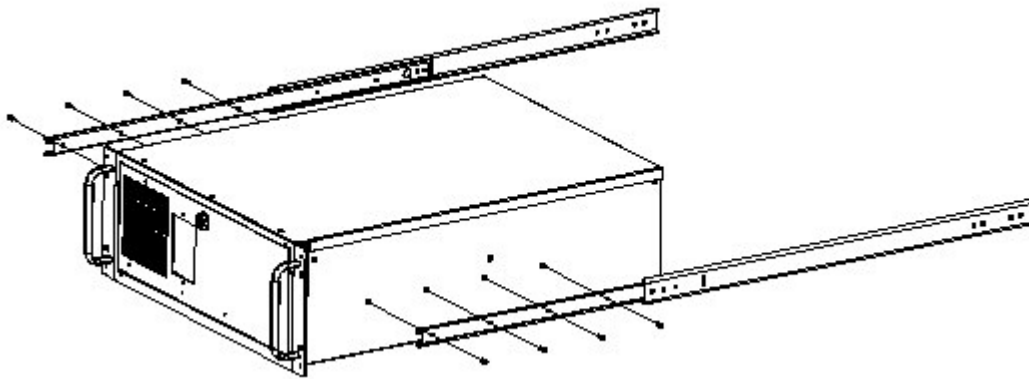

Figure 2-11. Installing Optional Slide Rails
2. Attach the provided Xycom slide rails* to the unit (see Figure 2-11).